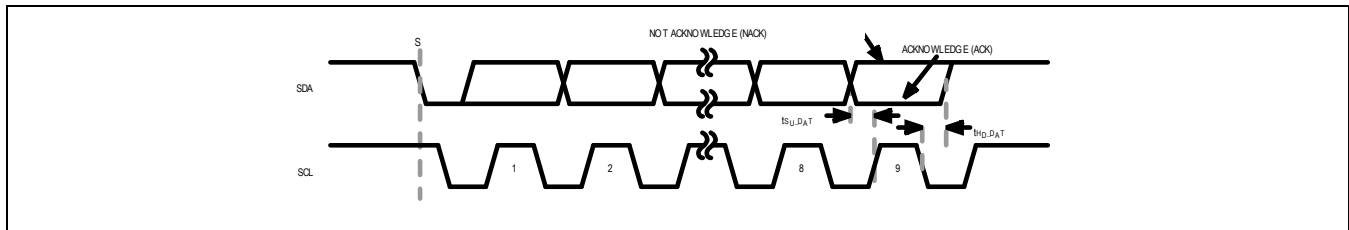

Figure 26. Acknowledge Bit
Both the I²C bus master and slave devices generate acknowledge bits when receiving data. The acknowledge bit is the last bit of each ninth-bit data packet. To generate an acknowledge (A), the receiving device must pull SDA low before the rising edge of the acknowledge-related clock pulse (ninth pulse) and keep it low during the high period of the clock pulse. See Figure 26. To generate a not-acknowledge (nA), the receiving device allows SDA to be pulled high before the rising edge of the acknowledge-related clock pulse and leaves it high during the high period of the clock pulse.